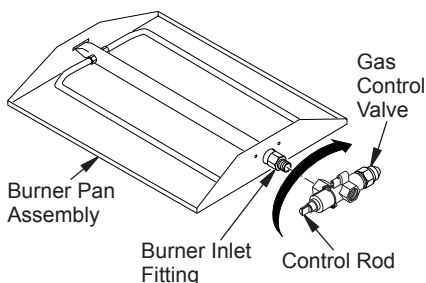

Figure 8 - Installing Gas Control Valve
1. Thread gas control valve onto burner inlet fitting (see Figure 8). Use thread sealant on male threads of burner inlet fitting. Hold burner inlet fitting with a wrench to prevent overtightening connection to burner. Make sure control rod is facing the front (see Figure 8).